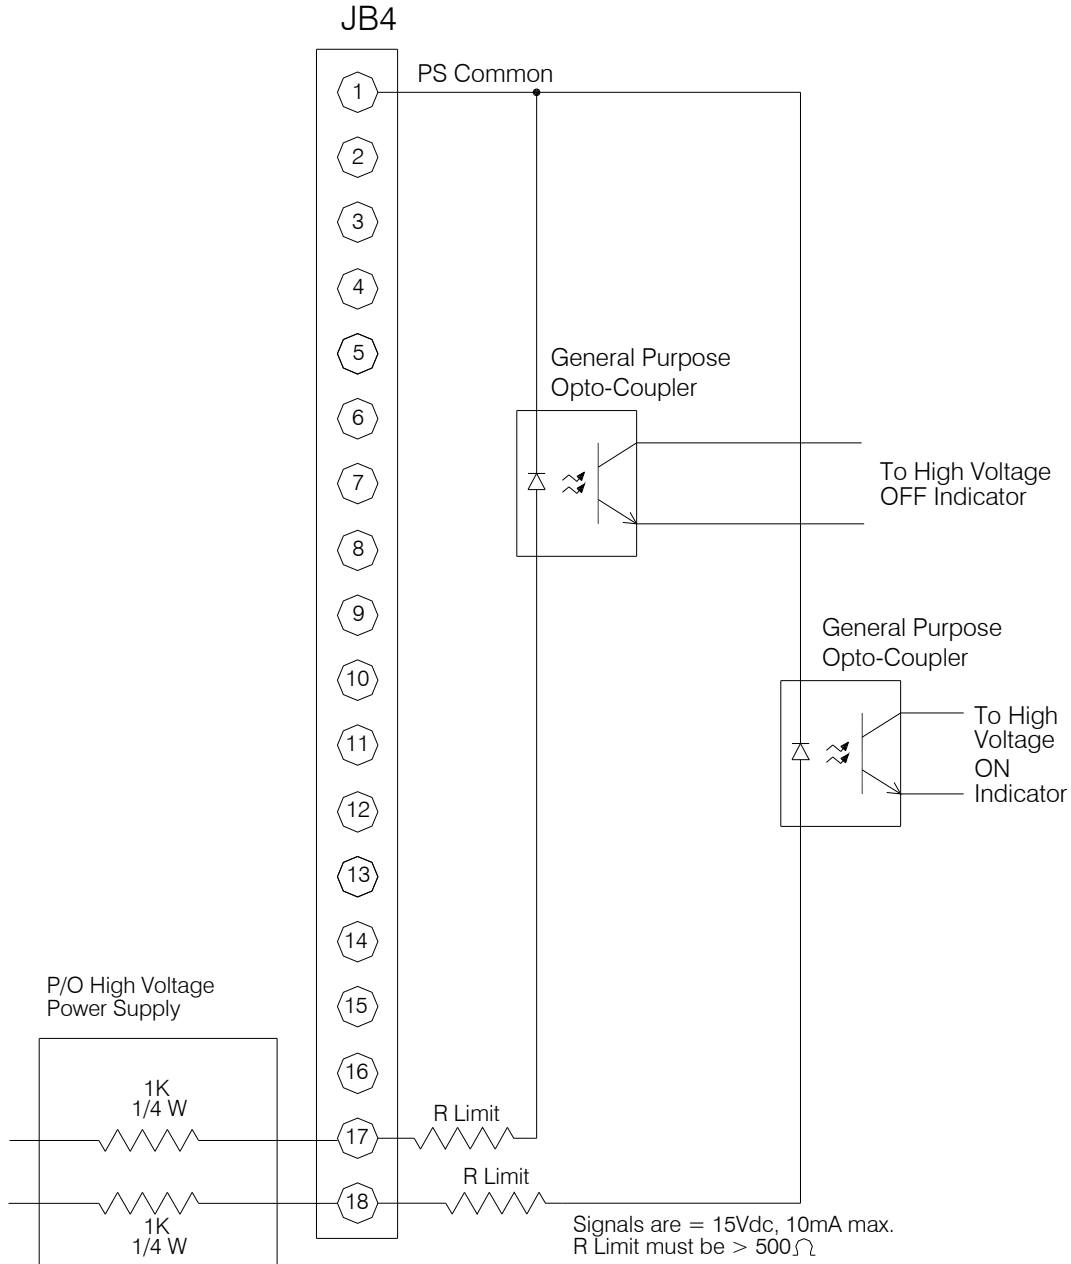

Figure 3.7 -- Remote High Voltage On and Remote High Voltage Off Indicator
- **REMOTE HIGH VOLTAGE ON & REMOTE HIGH VOLTAGE OFF:** Signals are provided for remote monitoring of the HIGH VOLTAGE ON/OFF status. See Figure 3.7 on page 15 for recommended interface.